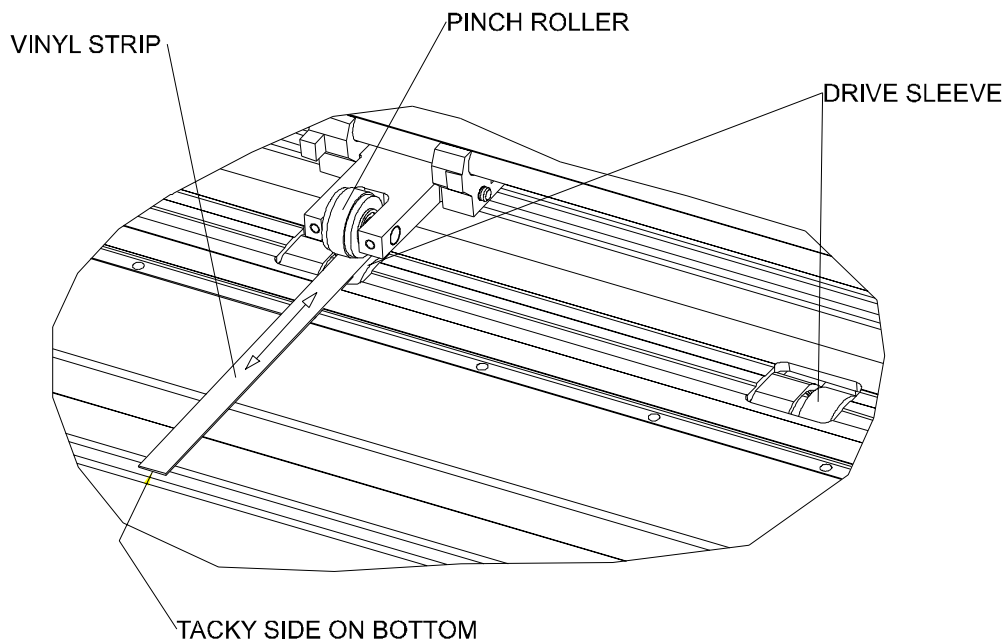

FIGURE 4-1
2. Raise the pinch rollers by lowering the pinch roller lever. Remove the backing from a piece of vinyl. Place the vinyl with its tacky side down between one of the pinch rollers and a drive sleeve (see Figure 4-1). Raise the pinch roller lever.